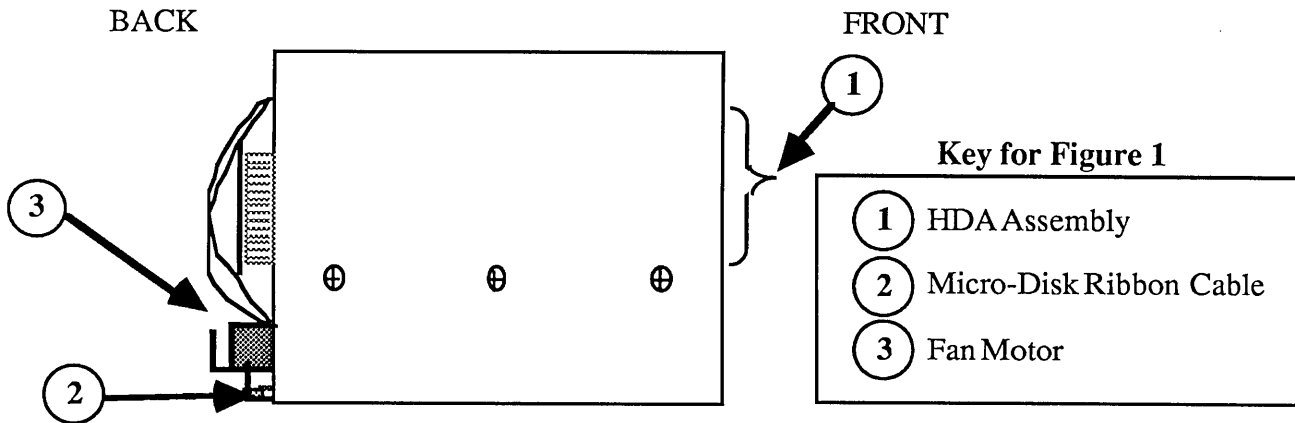

FIGURE 1: CARRIER VIEWED FROM THE LEFT SIDE
- a. The entire HDA assembly (including five PCBs; Figure 1, #1).
- b. The Micro disk drive's multicolored ribbon cable (Figure 1, #2).
- c. The disk drive module fan motor with its two-pin fan connector inserted into J2 of the top HDA PCB (Figure 1, #3).